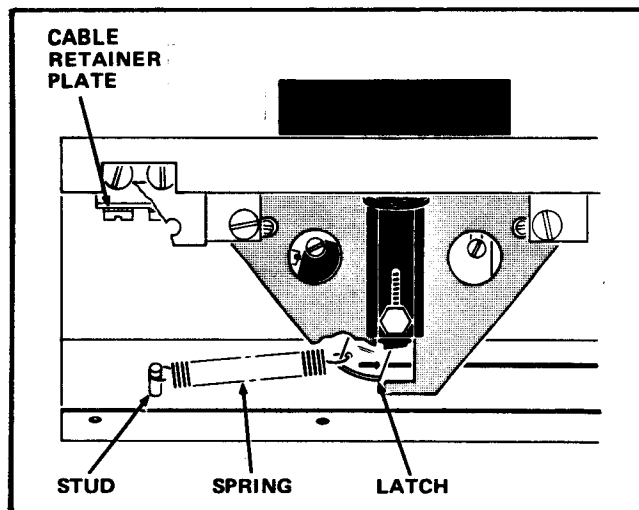

FIGURE 2
1. Remove the Coil Spring from the Stud at the upper end of the Selection Panel Assembly. This Spring is also attached to the upper Push Button Assembly Latch. See Figure 2.
8. Loosen, but do not remove, the 2 Screws which attach the Cable Retainer Plate. This Plate holds the Cable in proper tension. See Figure 2.